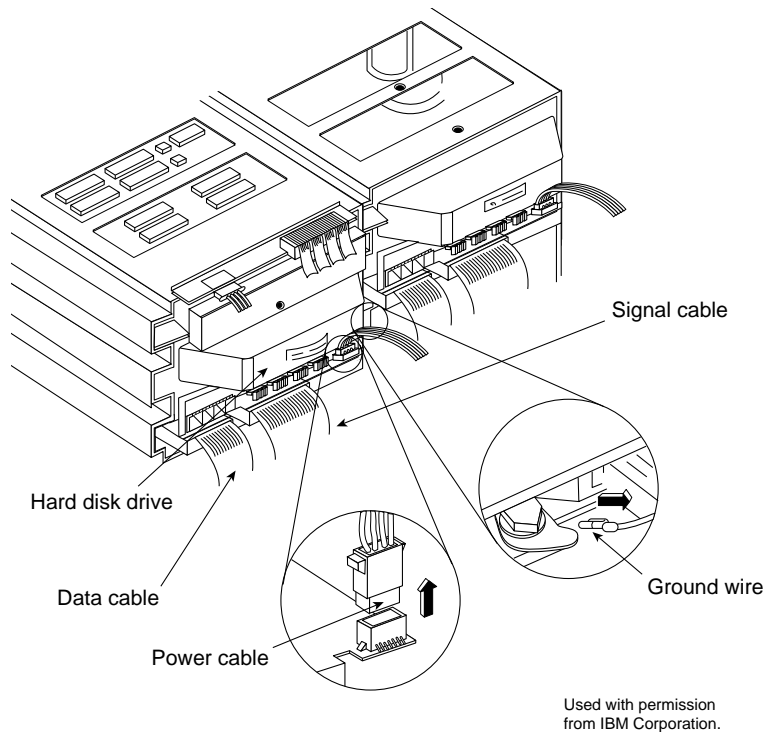

FIG. 3.3 Disconnect the hard drive power cable, signal and data cables, and ground wire.
2. Disconnect from the drives the power cables, data cables, and any ground wires if present (see Figures 3.3 and 3.4). In a correctly wired system, the colored stripe on one side of the ribbon cable always denotes pin 1. The power connector is shaped so that it can be inserted only the correct way.